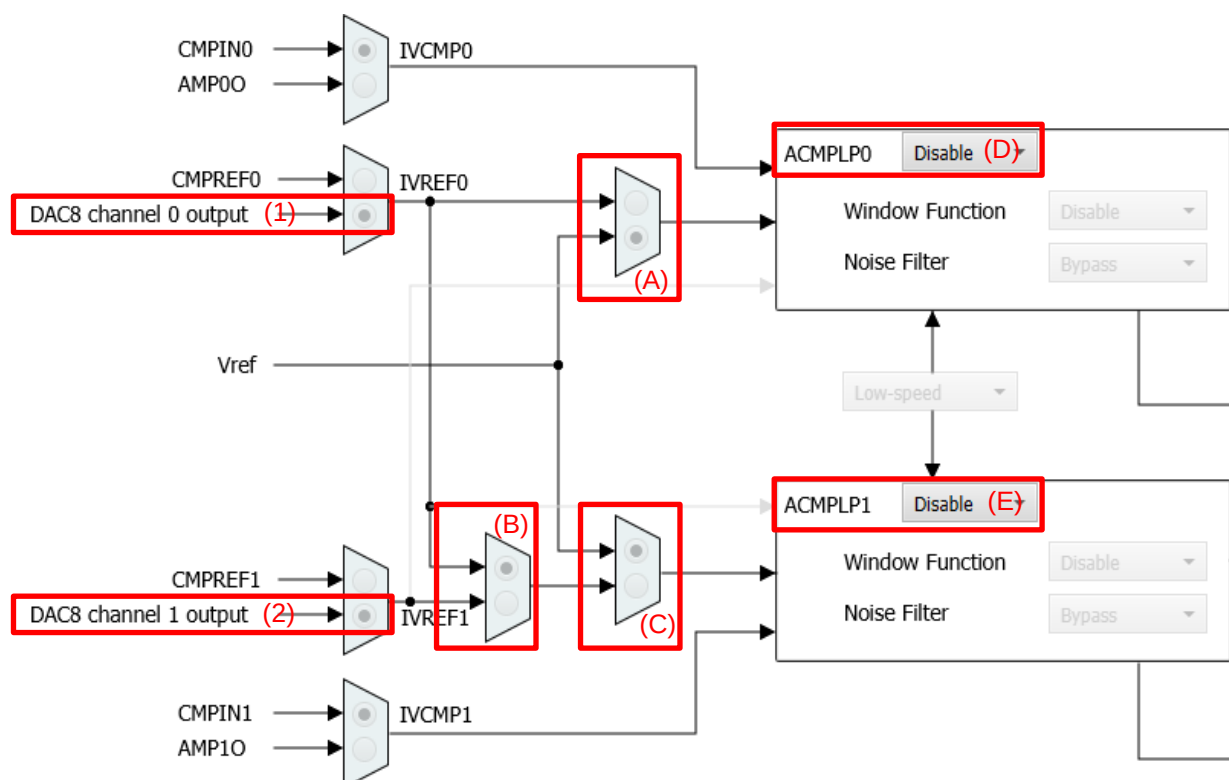

Figure 3-4 ACMPLP1 example setting
- “DAC8 channel 0 output” is selected as ACMPLP0 input (refer to figure3-4 (1))
- When switcher (A) selects Vref (refer to figure3-4 (A))
- When ACMPLP0 is disabled (refer to figure3-4 (D))
- When switcher (B) selects IVREF0, switcher (C) selects Vref (refer to figure3-4 (B) and (C)) and ACMPLP1 is enabled (figure3-4 (E) selects “Enable”)
- "DAC8 channel 1 output" is selected as ACMPPLP1 input (refer to figure3-4 (2))
- When switcher (B) selects IVREF0 (refer to figure3-4 (B))
- When switcher (C) selects Vref (refer to figure3-4 (C))
- When ACMPLP1 is disabled (refer to figure3-4 (E))